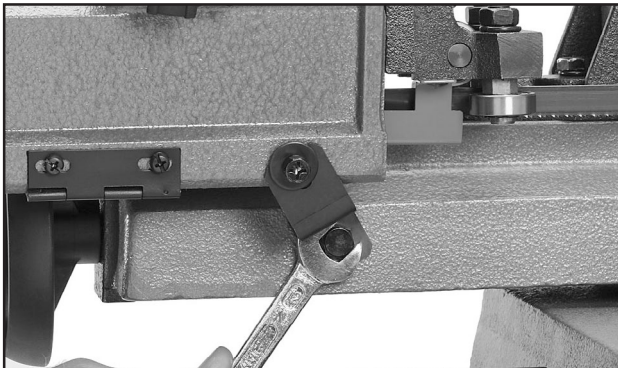

Figure 11. Removing shipping strap.
1. Remove the shipping strap hex bolt and strap with a 12mm wrench (see **Figure 11**).